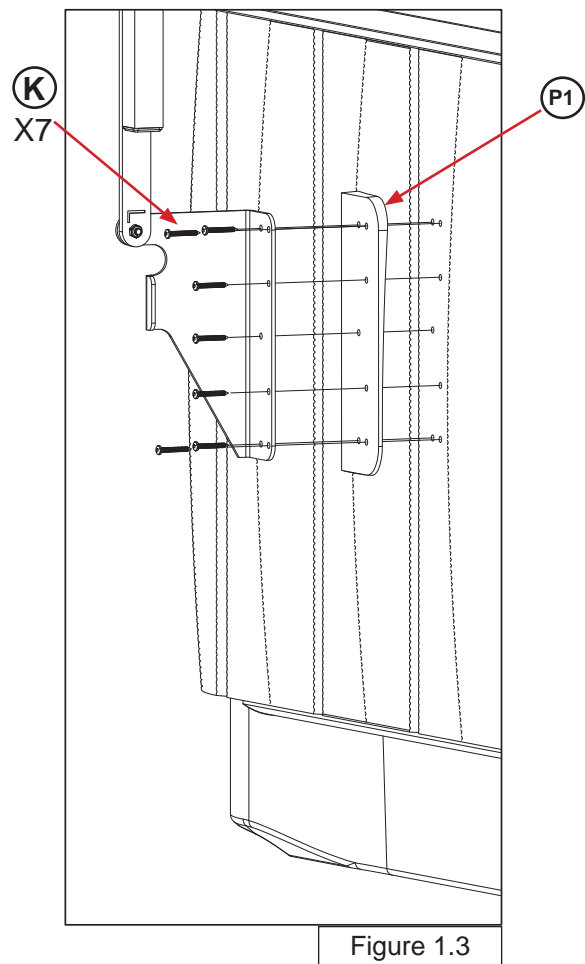

Figure 1.3
Every Watkins cover has 6 aluminum plates installed into the foam core hidden beneath the vinyl on 3 sides of the cover. There are two plates on the opposite side of the Warning Label and two on each side of the cover (Figure 1.3).
There are two predrilled holes on the top of each plate. Feel around the side of the cover to find the holes in the plates. Use a fine tip marker to mark the center of the hole for each of the four plates that will be used (Figure 1.3).
Making sure to align the holes on the bracket to the holes on the spacer (P1), secure the mounting bracket and spacers (P1) to the spa cabinet using (14) of the pan head screws (K) (Figure 1.3). Bag # 3 (K) (#10 2" Pan Head screws).